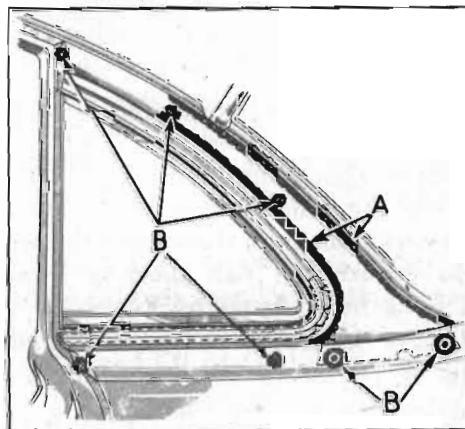

Figure 13-43—Sealing of Ventilator Header Molding
4. Before installing header molding, apply continuous heads of 3-M Autobody Sealer to metal flanges of rear quarter pillar from lower corners upward as indicated at "A" in figure 13-43. Circle each screw hole with sealer as indicated at "B."